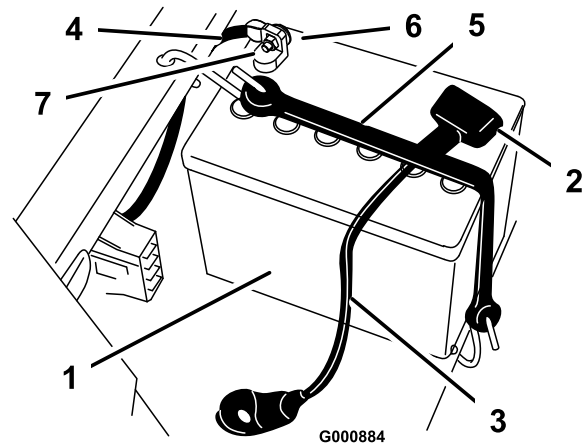

Figure 30
4. Disconnect the negative (black) ground cable from the battery post (Figure 30).
5. Slide the rubber cover up the positive (red) cable. Disconnect the positive (red) cable from the battery post (Figure 30).
6. Remove the battery hold-down (Figure 30) and lift the battery from the battery tray.
1. Position the battery in the tray with the terminal posts away from the control panel (Figure 30).
4. Secure the cables with 2 bolts (1/4 x 3/4 inch), washers (1/4 inch), and nuts (1/4 inch) (Figure 30).
6. Secure the battery with the hold-down (Figure 30).